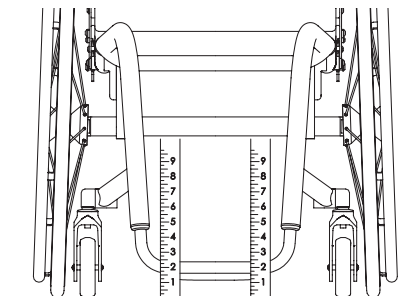

Figure 5
3. Place the end of a ruler on the floor and hold it vertically against the left corner of the footrest. See Figure 5. Adjust the left side of the footrest to the desired height (not less than 2" of ground clearance) and tighten the Allen Screw in the left clamp so the left side of the footrest cannot change.
5. Place the end of a ruler on the floor and hold it vertically against the left corner of the footrest. See Figure 5. Adjust the left side of the footrest to the
3. Place the end of a ruler on the floor and hold it vertically against the corner of the footrest. See Figure 5. Adjust the footrest to the desired height (not less than 2" of ground clearance) and tighten the Allen Screws in the left and right clamp so the left footrest cannot change.